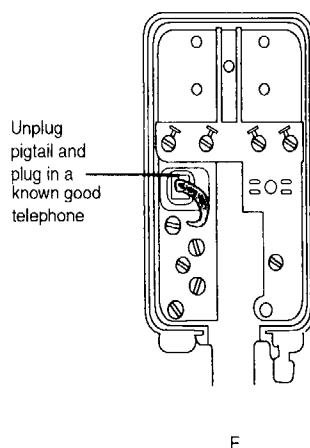

Figure 28. Troubleshooting
- Connect a known good telephone to the RJ-11 jack in the junction box. See Figure 28.